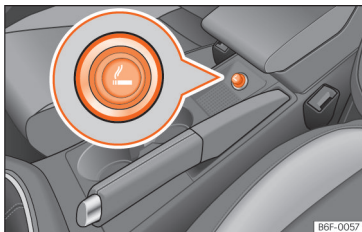

Fig. 160 Lighter.
- Press on the cigarette lighter »» Fig. 160 to activate it »» ⚠.